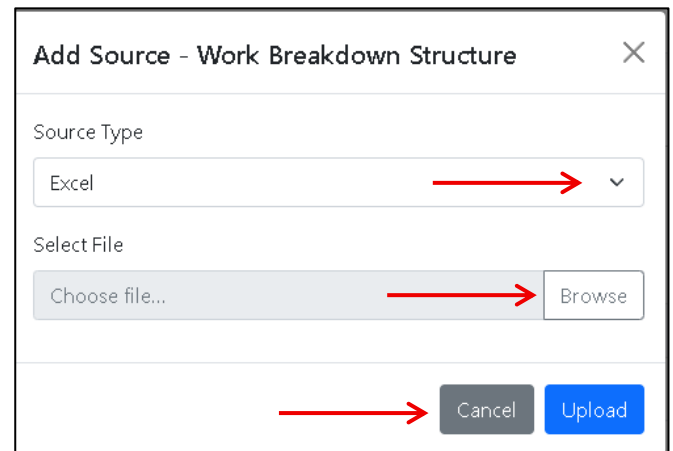

Figure 17: Adding an Excel data source
- 2) Select your **Source Type** from the dropdown (fig. 17).